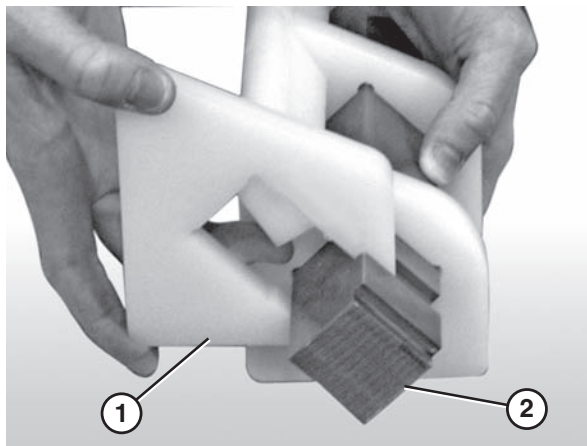

Figure 73
3. Attach the nose bar tracking pucks (Figure 73, item 1) to the nose bar drive post (Figure 73, item 2).